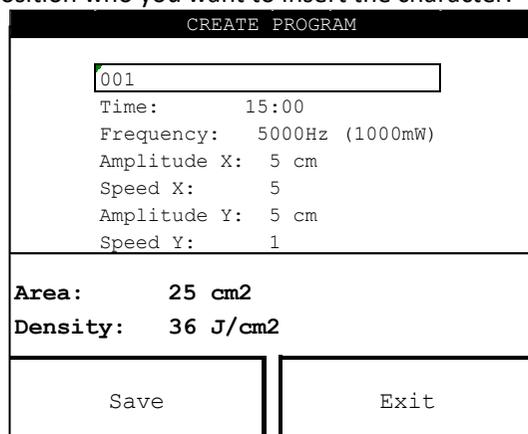

Fig.10
6. press the encoder knob on the selected position for to start the iter for the creation of a program ; this action allows the appearing of the next screen (see Fig.10);
7. to assign a name at the program to create it is necessary to move the cursor in correspondence of the first row, with the rotation of the encoder (Fig.10);